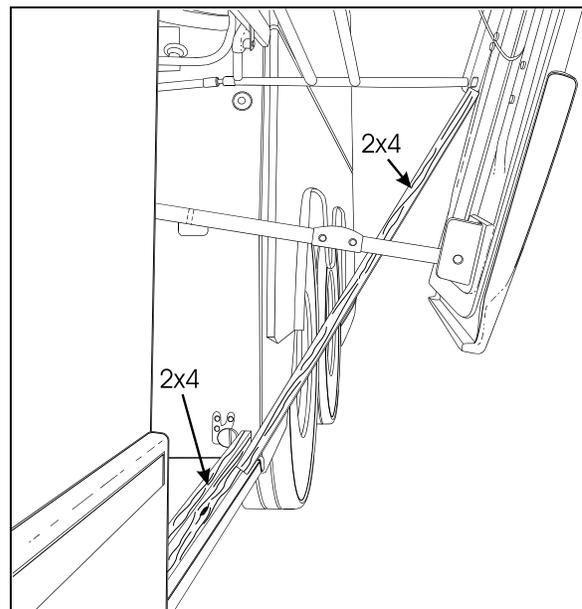

FIGURE 57: PANTOGRAPH ADJUSTMENT
*Refer, if needed, to figure 57 for identification of door components.*